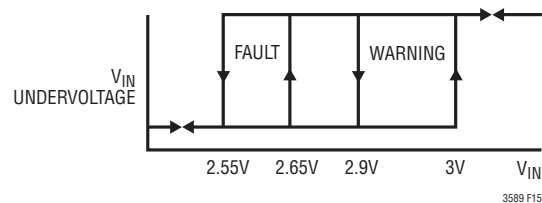

Figure 15. UV Detection Hard Reset and Warning Levels
The LTC3589 undervoltage (UV) detection circuit will output a fault condition, locking out regulator operation, until V_{IN} reaches 2.7V. Once V_{IN} is above 2.7V the LTC3589/LTC3589-1 will operate normally until V_{IN} drops to 2.55V (typical). When V_{IN} drops below 2.55V, the fault condition initiates a hard shutdown reset. Figure 15 shows undervoltage warning and fault detection levels.